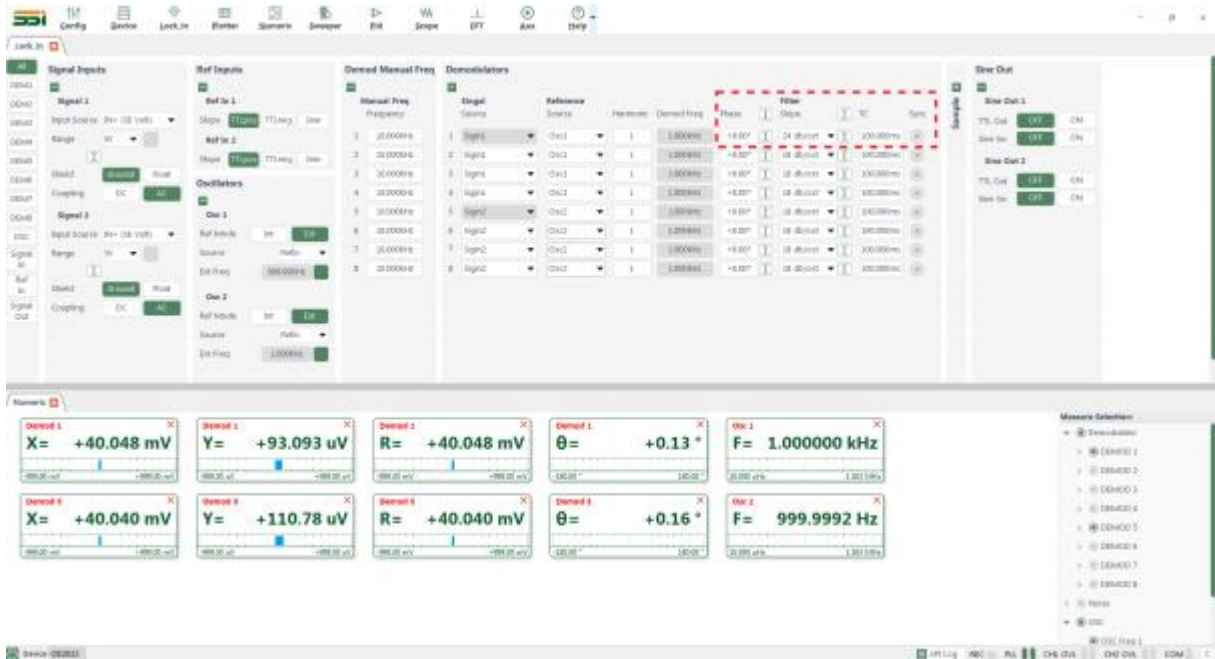

Figure 35. Filter Configuration Diagram
3. According to Table 2, select the demodulator time constant, filter steepness, and phase adjustment values in the filter configuration area, with other options left default. As shown in Figures 35 and 36, choose one of the methods to modify and complete the configuration.